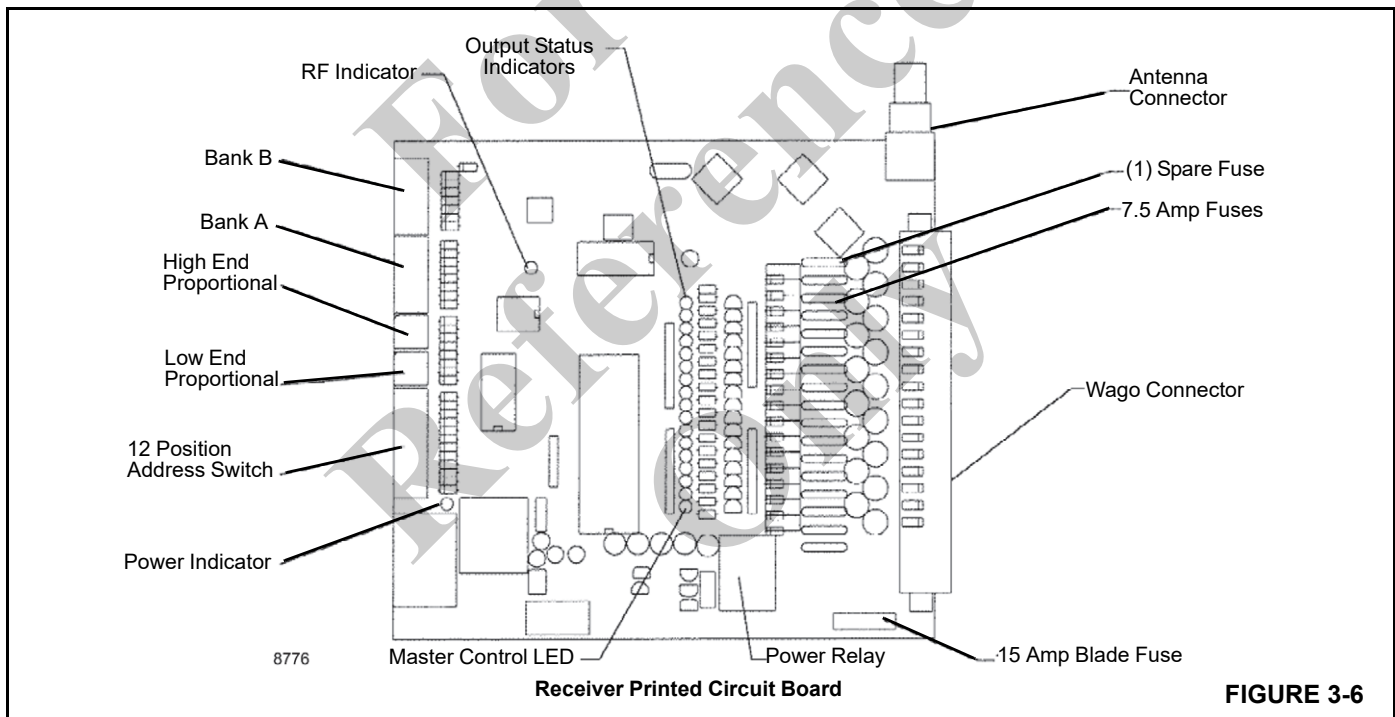

FIGURE 3-6
- a. Remove cover on the receiver and refer to the "Receiver Printed Circuit Board" drawing, Figure 3-6, in the installation instructions.
1. When a function is activated on the transmitter, two or three LED's are turned on in the receiver: (1) RF Indicator LED, (2) Output Status Indicator LED, (3) Master Control LED (may or may not be utilized on the equipment).
If mounting on a vertical plane, ideal mounting would be to place the connectors pointing down. Adequate planning is required so wire routing can be accomplished. You must keep in mind that the unit comes standard with 20 feet of antenna cable. Use the mounting holes on the receiver for securing the system. Once mounted, remove the cover to inspect the Status Indicators. (Refer to the Receiver Printed Circuit Board drawing, Figure 3-6, in the following steps.)
Each unit comes with a connector chart (Chart C) with the appropriate input and output instruction for your unit. There are three (3) inputs to the receiver: (A) BNC connector, (B) Positive DC current, (C) Negative ground. The unit derives power from a 10 to 24 volt DC power system that is negative ground. It is required to install a power switch for the receiver in series (in-line) with the DC power system (battery). Refer to the Receiver Printed Circuit Board drawing, Figure 3-6.
Once the receiver is installed properly, the following steps should allow the installer to quickly match the receiver’s proportional output to the proportional valve. Please refer to the Receiver Printed Circuit Board drawing, Figure 3-6.
Care should be taken in installing the antenna. When mounting antenna, keep in mind that the unit comes standard with 20 feet (6.1 m) of antenna cable. If driving an electric over hydraulic pump or any type of electric motor, mount the antenna away from the motor since that may emit spurious interference. This will reduce the possibility of electrical interference. For best operation, mount antenna on underside of boom. Otherwise pick a location that has the best visibility and a ground plane with a diameter that is at least twice the height of the antenna. (Note: it is important that you do not wrap any excess antenna cable in loops.) The connector on the end of the cable will hook up to antenna connector on receiver. See Figure 3-6.